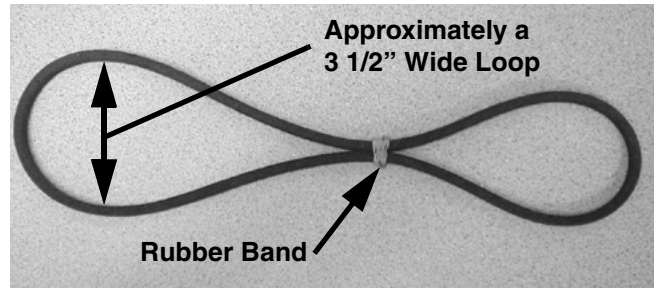

FIGURE 6
9. To facilitate drive belt installation place a small rubber band loosely around the new belt, Item 1, as shown in Figure 6.